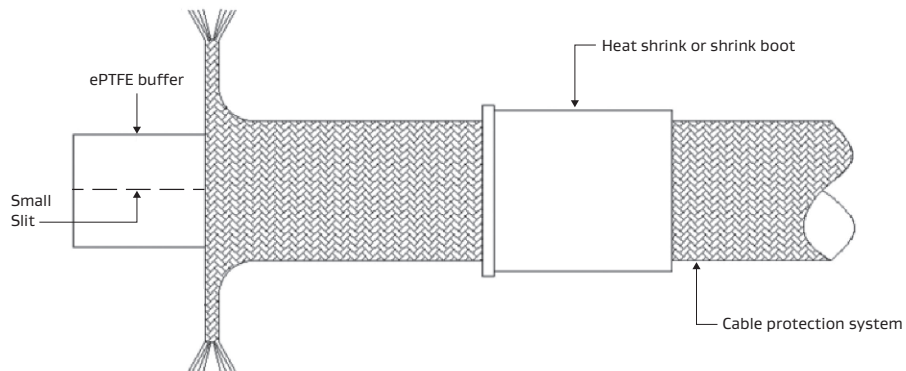

Figure 9: Making a small slit on the white ePTFE buffer
4. Using a razor or equivalent, carefully make a small slit on the white ePTFE buffer down to the clear or black plastic tubing (Figure 9).